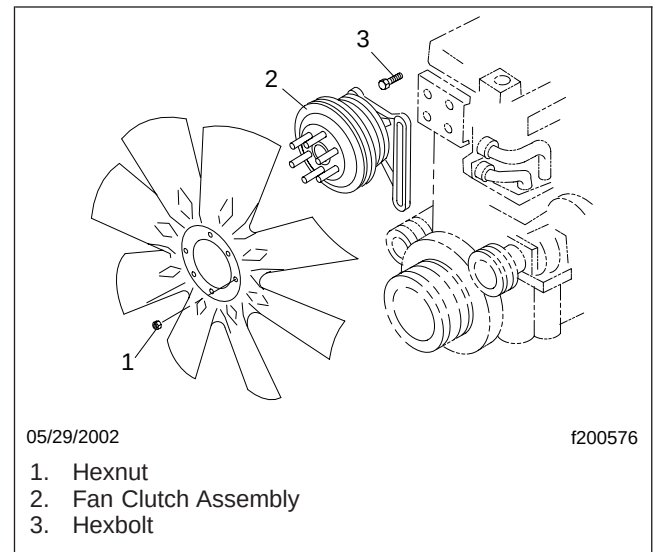

Fig. 1, Fan Clutch Removal (typical)
10. Remove the fasteners holding the fan clutch mounting bracket to the front of the engine. Then remove the fan clutch assembly from the vehicle. See Fig. 1.